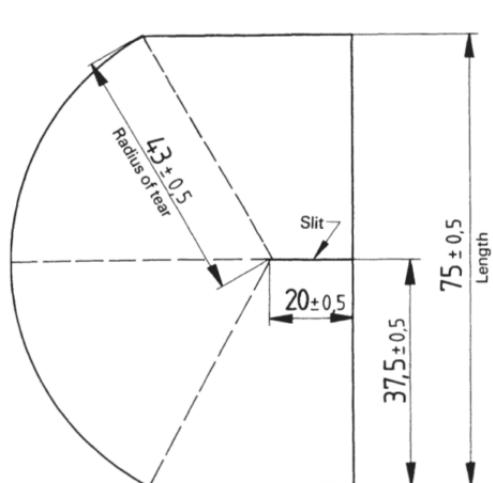

Figure 2 – Constant-radius test specimen
6.1 The test specimen shall have the shape and dimensions shown in figures 2 or 3. The preferred or referee specimen shall be the constant-radius specimen (figure 2) because of better reproducibility (see 8.5).
8.5 When constant-radius test specimens (see figure 2) are used, reject any tests in which the line or tear deviates outside the constant radius section and test additional specimens to replace those rejected.